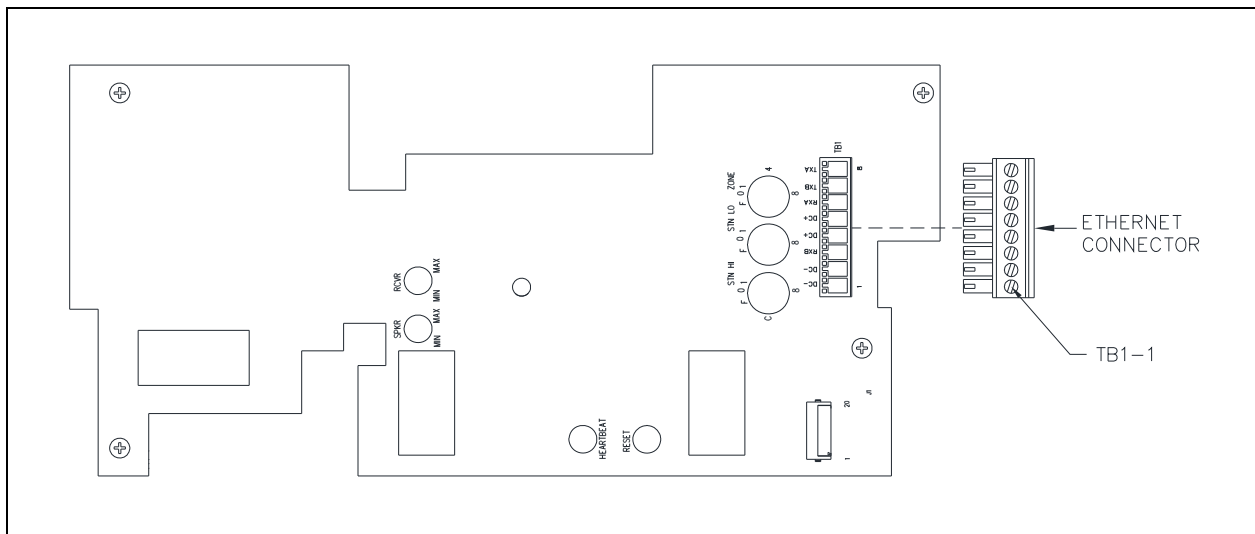

Figure 8. POE Interface PCBA
The PoE interface PCBA mounts to the top of the main PCBA. Terminate the Ethernet cable to terminal block TB1 on the PoE interface PCBA (see Figure 8).
4. Connect the pluggable terminal block to the POE interface PCBA (see Figure 8).